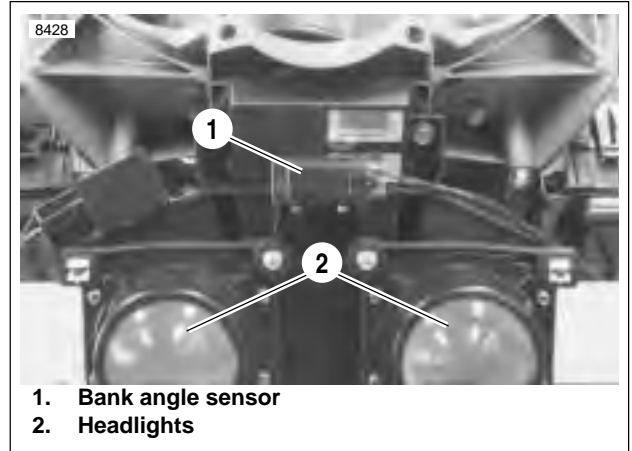

Figure 4-170. Bank Angle Sensor
See Figure 4-170. A Code 44 occurs when the bank angle sensor (1) voltage is outside the normal operating range of 0.25-4.8 volts. This may be caused by: